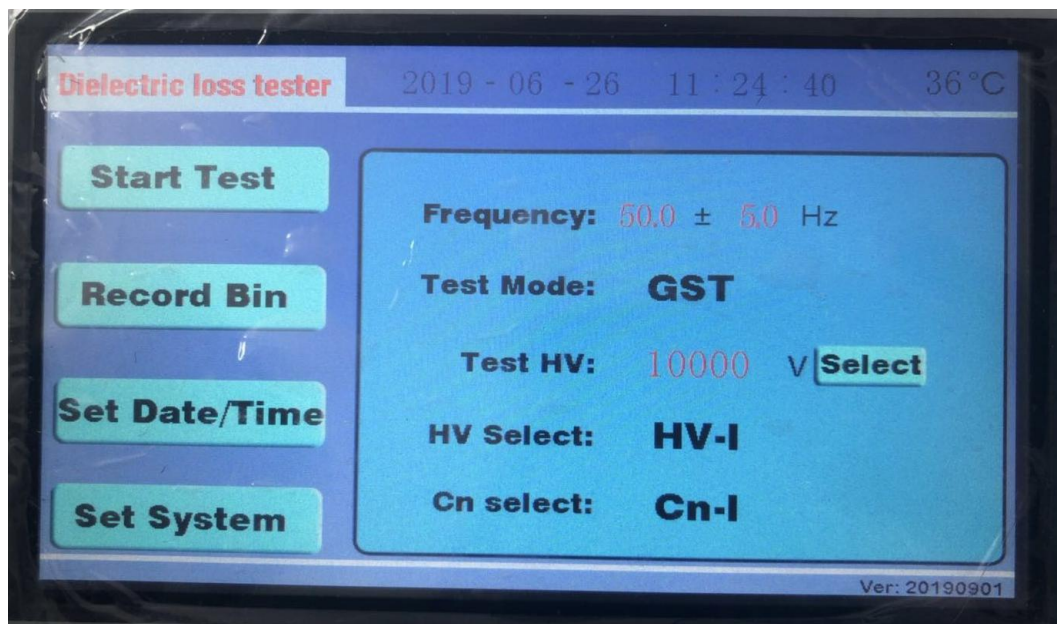

Figure 10 Start-up interface
1.Turn on the power switch and conduct self-check. If the self-check is good, the LCD will display the starting interface in FIG. 10.